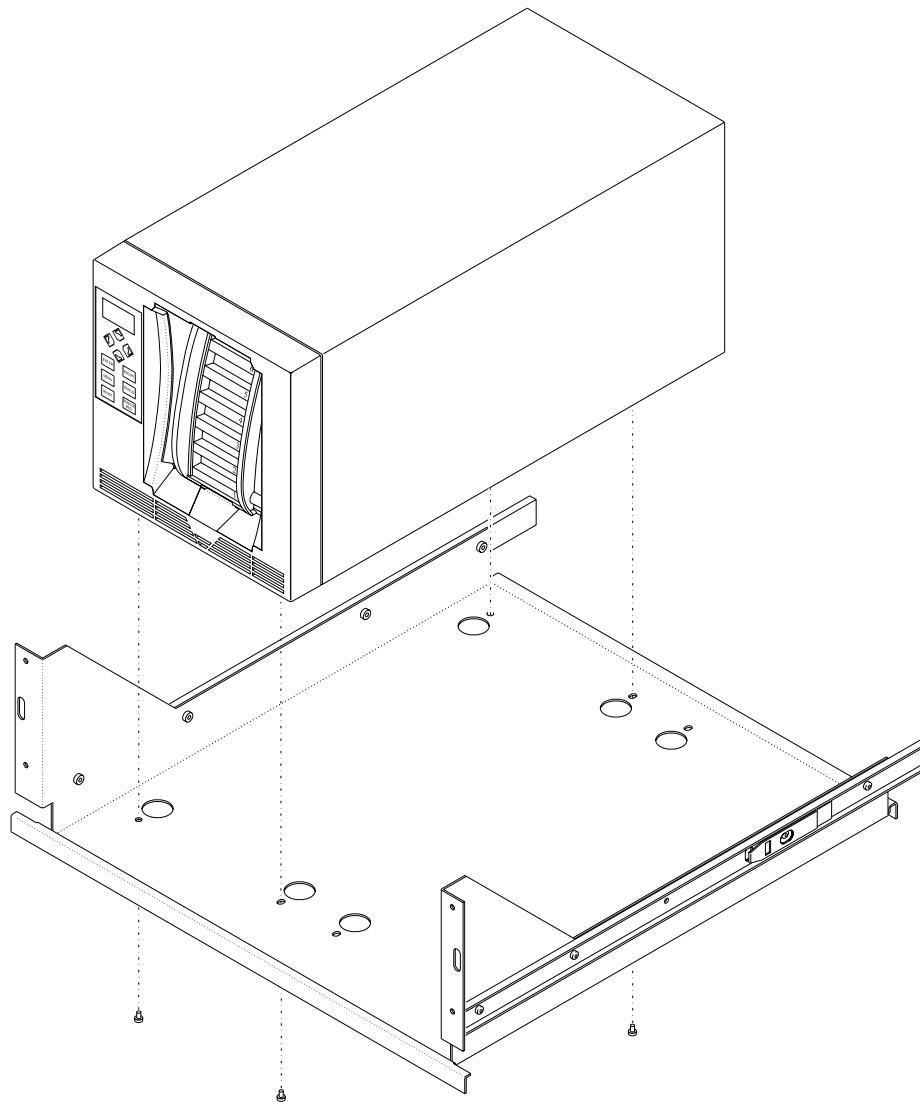

Figure 7-8 Removing the autoloader from the tray
3. Remove the four screws that secure the bottom of the autoloader to the tray, and lift the autoloader off the tray (see Figure 7-8).